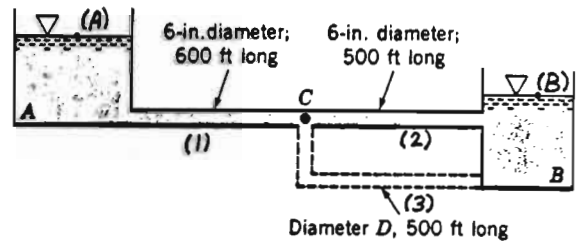

FIGURE P8.125
8.125 The flowrate between tank A and tank B shown in Fig. P8.125 is to be increased by 30% (i.e., from  $Q$  to  $1.30Q$ ) by the addition of a second pipe (indicated by the dotted lines) running from node C to tank B. If the elevation of the free surface in tank A is 25 ft above that in tank B, determine the diameter,  $D$ , of this new pipe. Neglect minor losses and assume that the friction factor for each pipe is 0.02.